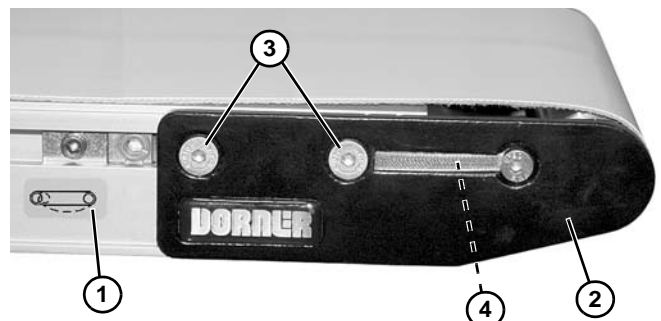

Figure 54
1. On tension end of the conveyor, identified with a  label (**Figure 54, item 1**), adjust headplate assembly (**Figure 54, item 2**): On both sides of conveyor, loosen fastening screws (**Figure 54, item 3**) and rotate pinion gear (**Figure 54, item 4**) to adjust headplate assembly.
3. After adjusting proper tensioning, tighten fastening screws (**Figure 54, item 3**) on both sides of conveyor to 7 Nm.